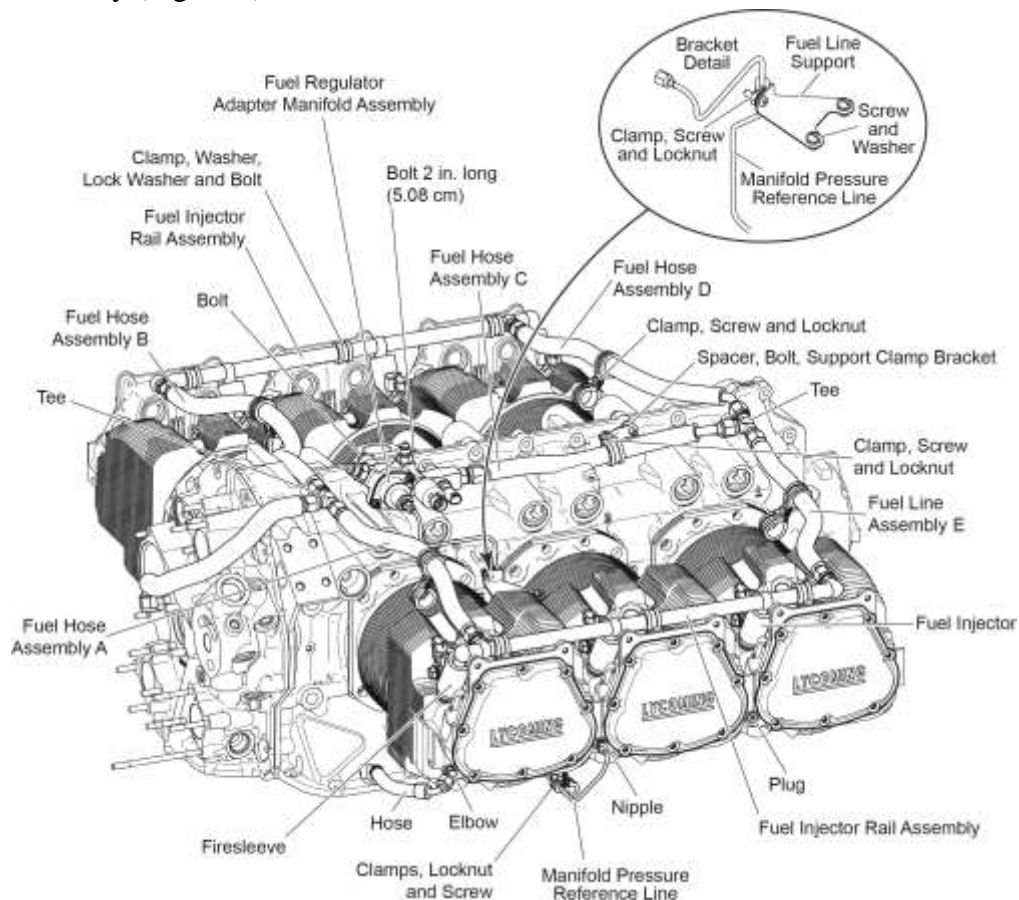

Figure 7
NOTICE: Fuel hoses are identified as A, B, C, D, and E in Figure 7
NOTICE: As shown in Figure 7, there are two fuel injector rail assemblies, one on each side of the engine. Each fuel injector rail assembly is attached to fuel hoses and the fuel injectors on the three engine cylinders on each side of the engine.
- (1) Remove the harness connector from all three fuel injectors on the affected fuel injector rail assembly.
- (2) Remove the screw and lock nut from each of the two clamps that attach the wiring harness to the fuel injector rail assembly. Discard the lock nuts.
- (3) Move the wiring harness so it does not interfere with fuel injector rail assembly removal.
- (4) Put a fuel collection container under the side of the engine where the fuel injector rail assembly (Figure 7) is to be removed.
- (5) Loosen the cap on the fuel pressure regulator bleed port to release pressure from the fuel hoses.
- (6) Disconnect the two fuel hoses (identified as A and E or B and D in Figure 7) from the fuel injector rail assembly coupling at each end of the fuel injector rail assembly to be removed.
(6) Install the fuel injector rail with the fuel injectors installed (Figure 7) on the engine with the fuel injectors installed in the fuel injector adapters.
(7) Torque the coupling on each end of the fuel injector rail in accordance with the Standard Torque Tables in the latest revision of the *Service Table of Limits - SSP-1776*.
(8) Install the clamps on the fuel injector rail each with a bolt, washer, and new lock washer. Torque the bolts in accordance with the Standard Torque Tables in the latest revision of the *Service Table of Limits - SSP-1776*.
(9) Connect the fuel hoses (A and E or B and D in Figure 7) to the fuel injector rail coupling at each end of the fuel injector rail. Torque in accordance with the Standard Torque Tables in the latest revision of the *Service Table of Limits - SSP-1776*.
(10) Attach the each of the three fuel injector harness connectors to applicable fuel injectors.
(11) Attach the wiring harness to the fuel injector rail with the two clamps, screws, and new lock nuts. Torque the lock nuts in accordance with the Standard Torque Tables in the latest revision of the *Service Table of Limits - SSP-1776*.
(12) Install and tighten the bleed cap on the fuel pressure regulator bleed port.